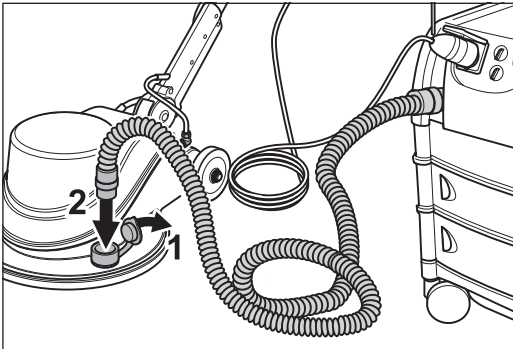

Fig. 24 Open the cap and attach the hose to the SINGLE.
- 3 Open the cap of the dust extraction socket on the machine housing and push the vacuum cleaner hose into the connection piece (Fig. 24).